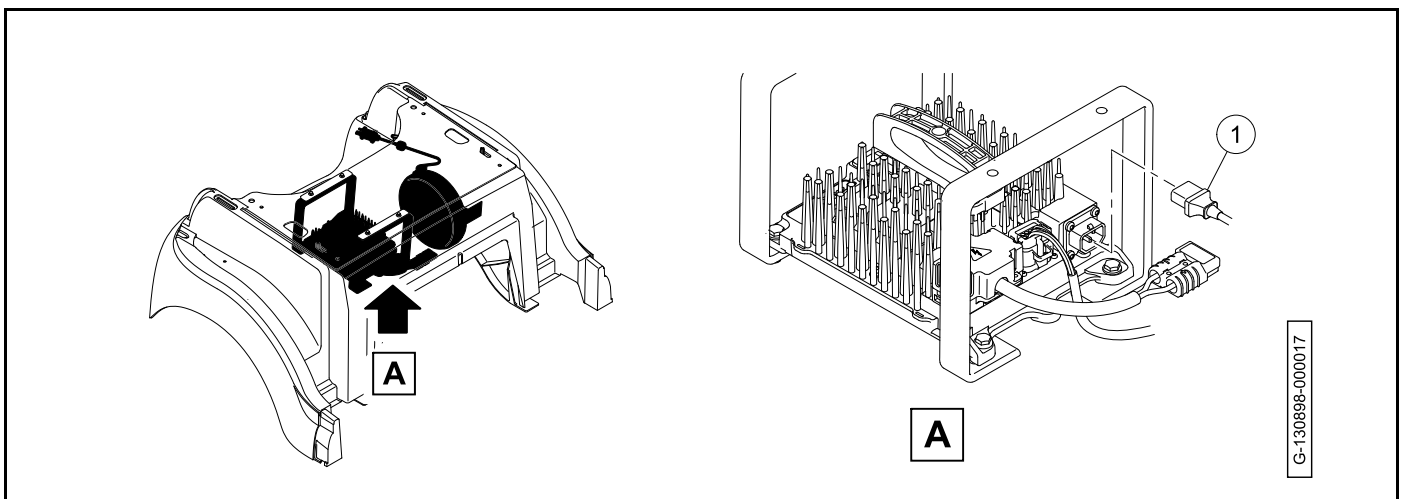

Figure 15-30 Connect To Battery Charger
4. Put the AC cord through the cord housing (3).
6. Install the screws (2). Tighten the screws to 13 lb-in (1.5 N·m).
7. Connect the AC cord (1) to the battery charger (Figure 15-30, Page 15-41).